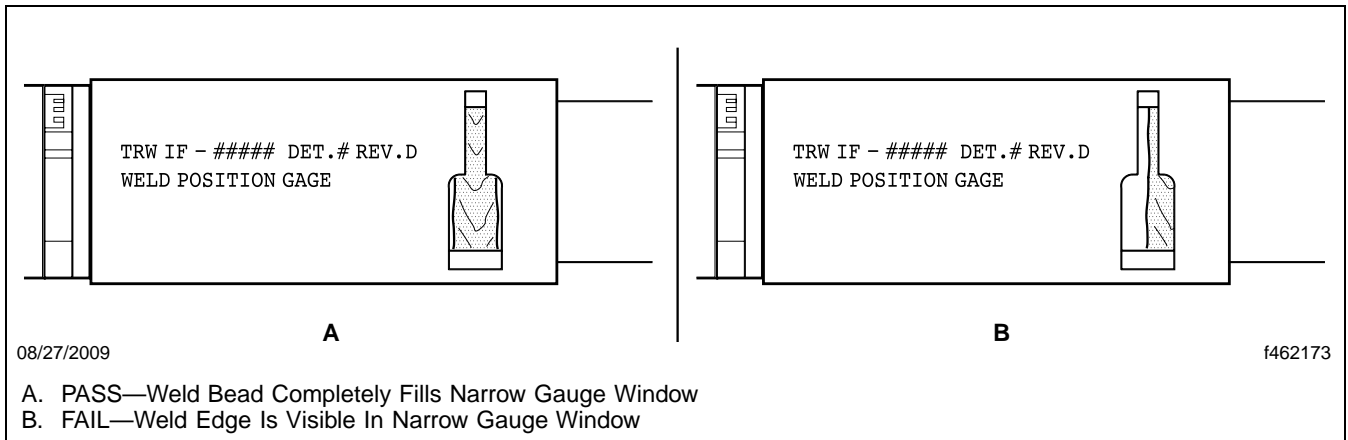

Fig. 3, Gauge Measurement
7. Visually inspect the full circumference of the weld seam in the narrow gauge window. See **Fig. 3**. Check for the following: